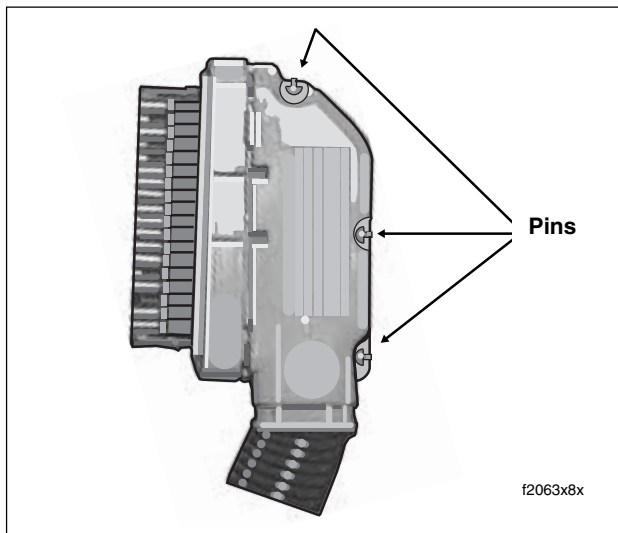

Figure 8-51. Separate Halves of Socket Housing
3. Using a thin blade, gently pry at seam at back of socket housing to release three plastic pins from slots in housing. Separate and spread halves of socket housing. See Figure 8-51.
2. Exercising caution to avoid pinching wires, press halves of socket housing together until three plastic pins fully engage slots in housing. See Figure 8-51.